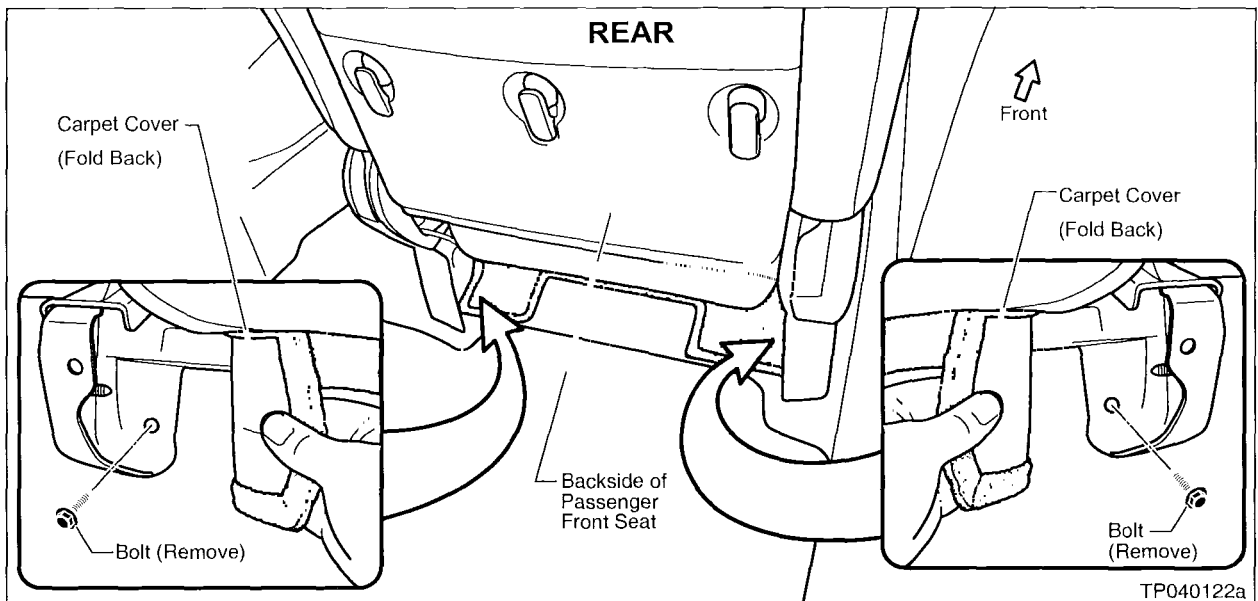

Figure 4
8. Remove the two mounting bolts that secure the rear of the seat frame (see Figure 4).